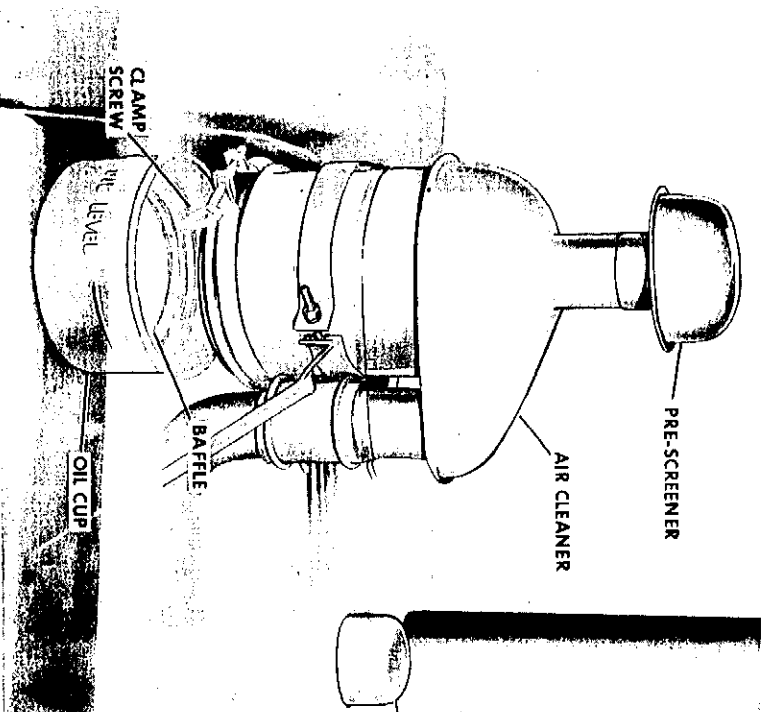

Figure 54
1. Loosen the oil cup retainer clamp screw so oil cup can be lowered and removed from air cleaner, Figure 54.